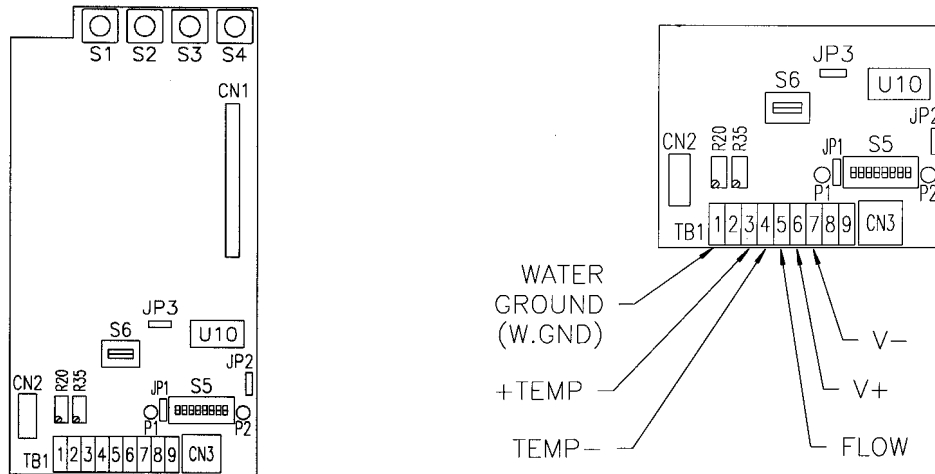

Fig. 3.10 & Fig. 3.11
- Locate the Input Board. (Fig. 3.10)
- Locate the Input Board. (Fig 3.10)
- Locate the Input Board (Fig 3.10)
- Locate Input Board (Fig. 3.10)